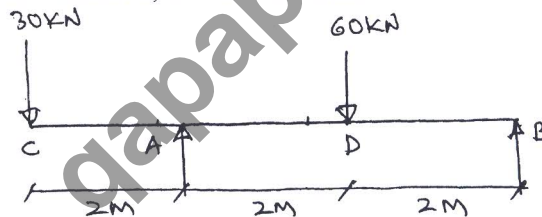

Fig.Q.6(b)
b. Determine the deflection under the loads for an overhanging beam carrying loads as shown in the Fig.Q.6(b). Take  $E = 200 \text{ GPa}$ ,  $I = 45 \times 10^6 \text{ mm}^4$ . (12 Marks)